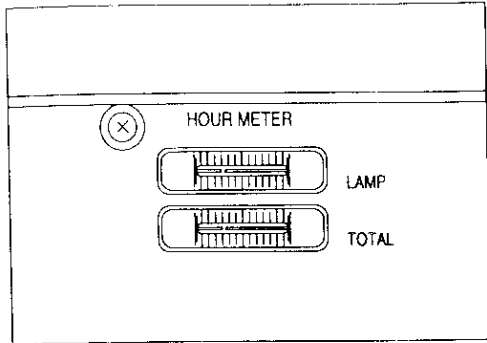

Fig. 64
11. Remove the old lamp life meter and install a new one, model name OL-X3 (Fig 64).